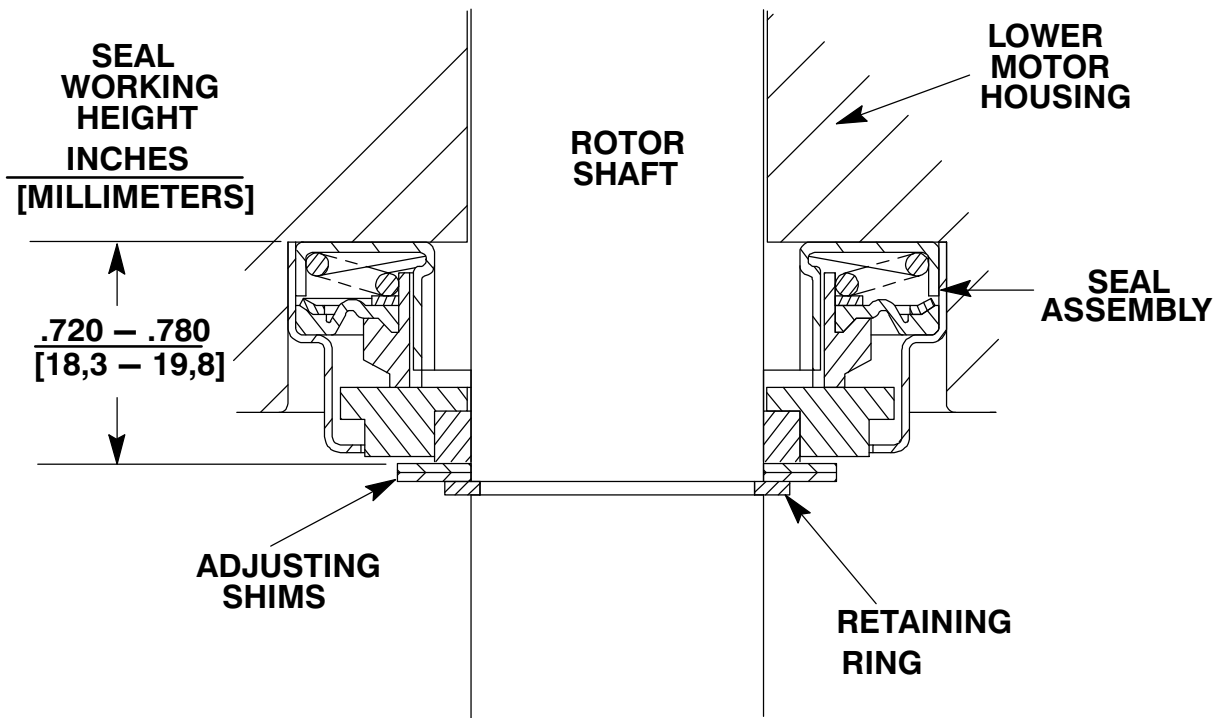

Figure C-2. Upper Seal Assembly
If all of the original motor parts are being reused, the same thickness of shims (62) as previously removed may be installed. However, if new motor parts are being installed that will affect parts “stackup”, or if the thickness of shims removed at disassembly is unknown, it will be necessary to measure the seal bore in the intermediate to determine the required shim thickness. This distance is measured from the bottom of the bore in the motor housing to the motor side of the retaining ring (61). Select the required combination of shims to obtain a seal working height of 0.720 to 0.780 inches (18,3 to 19,8 mm) as shown in Figure C-2.